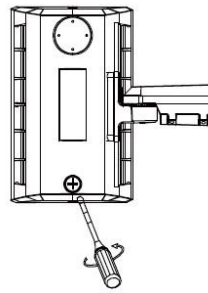

Figure 12
1. The DIP switches are located inside the plug on the back of the fixture (Figure 12).